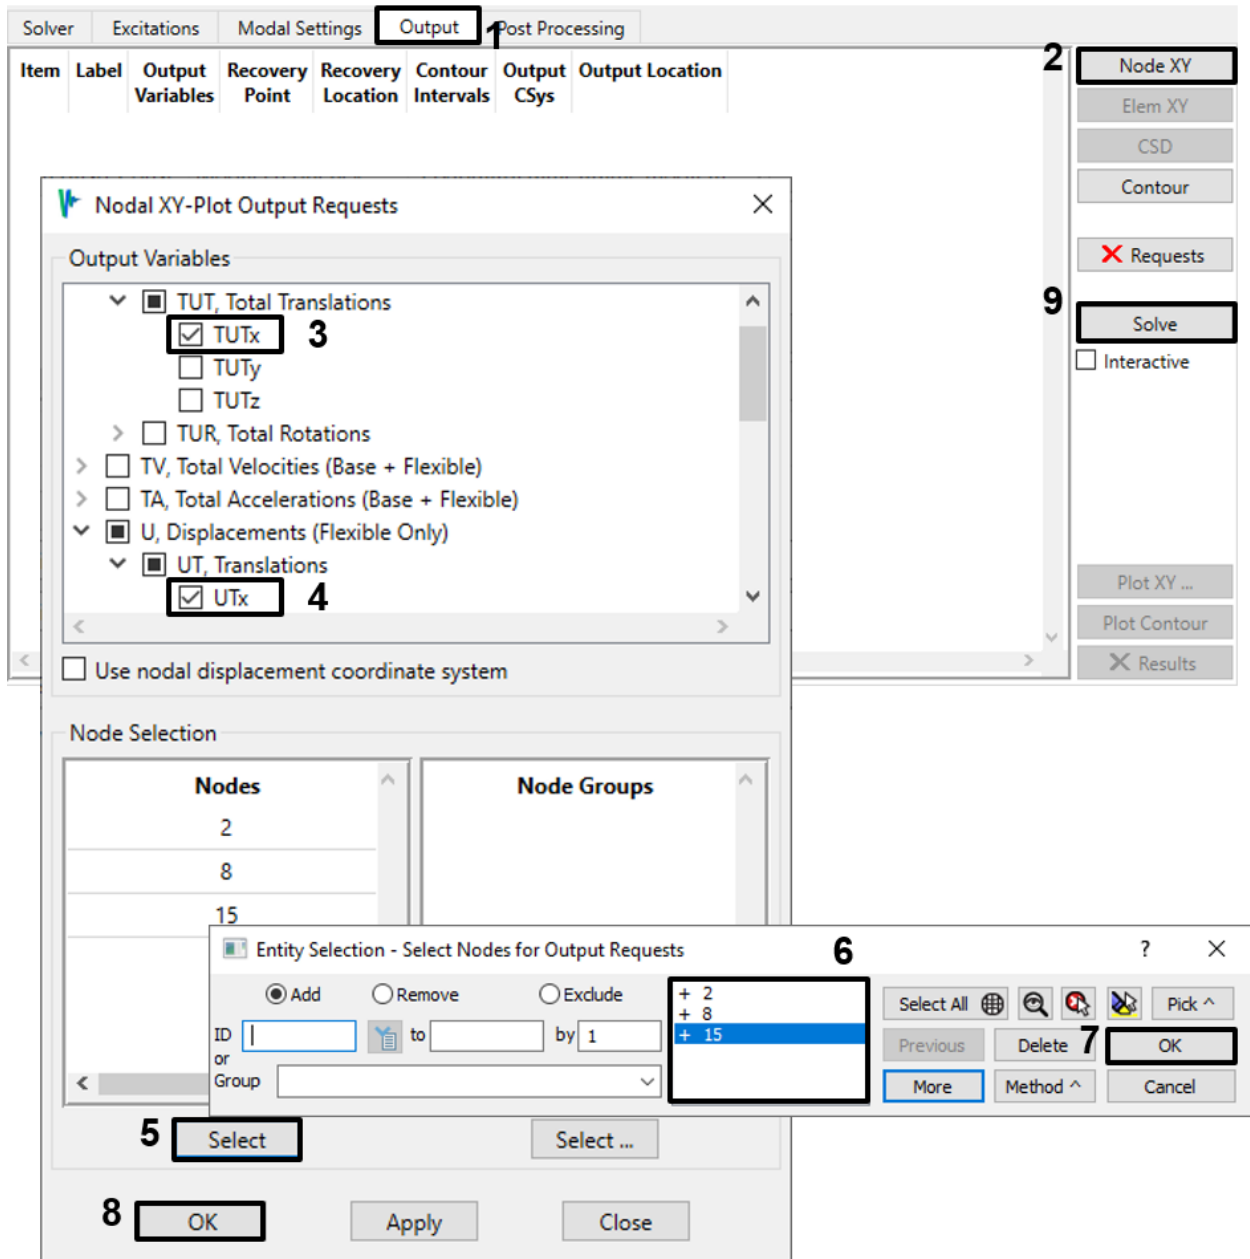

Figure 4-33. Request both flexible and total nodal X-translation plots.
- On the *Output* tab, create a Node XY output request for flexible and total X-translations ( $TUTx$  and  $Utx$ ) for the center base (node 2), center second floor (node 8) and upper right corner (node 15), as shown in Figure 4-33.